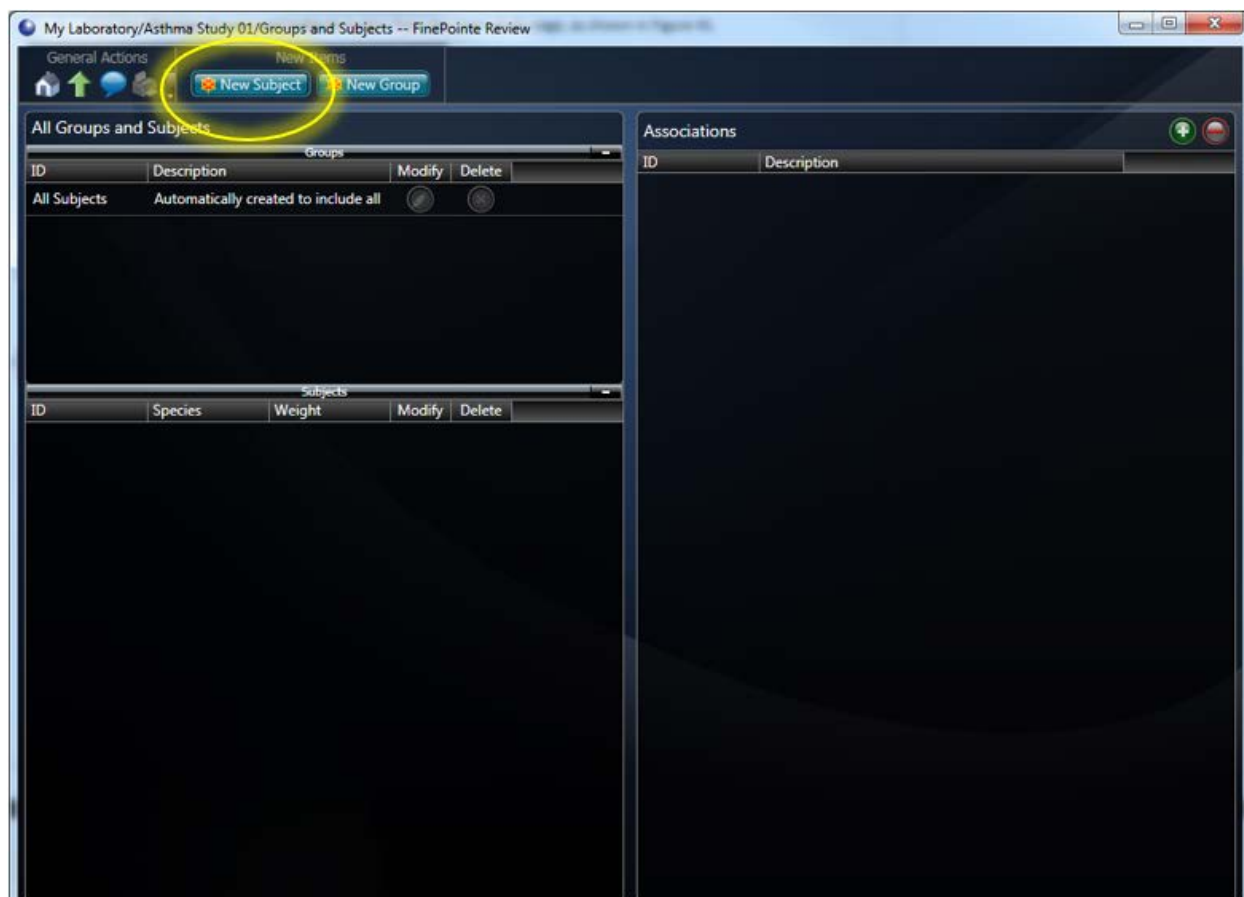

Figure 53. Select the New Subject button from the Manage Groups and Subjects page.
1. Click the **New Subject** button to start adding Subject IDs as indicated in Figure 53.